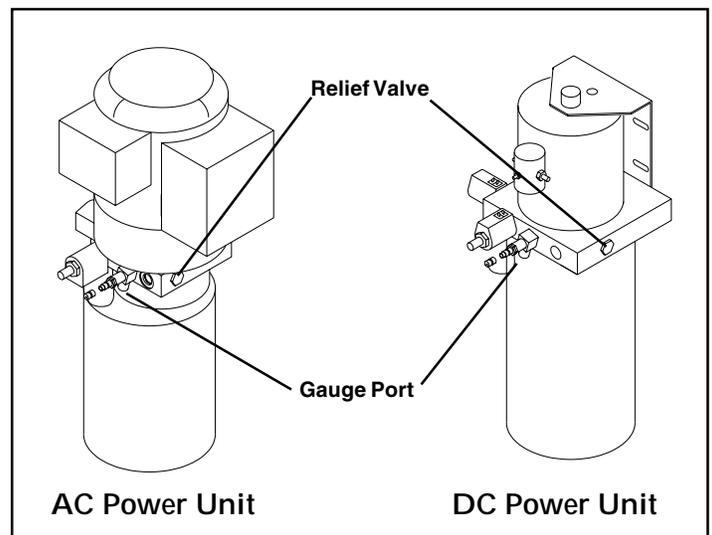

Figure 4-4: System Relief Valve
4.4 Setting System Relief Valve (Figure 4-4)
5. Remove the cap from the System Relief Valve (fig. 4-4), and turn the adjustment screw counterclockwise two full turns.
7. Turn the System Relief Valve Clockwise (fig. 4-4) until the machine begins to rise.